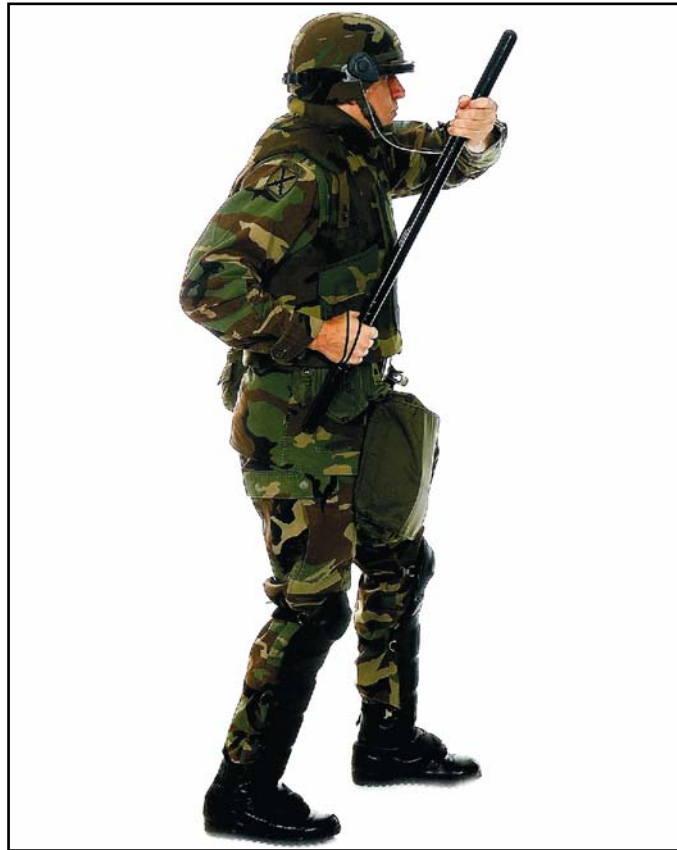

Figure 191-376-4121-7. On-guard position (side view)
5. Ensure that a blow is not directed to one of the five fatal points. Refer to figure 191-376-4121-8.